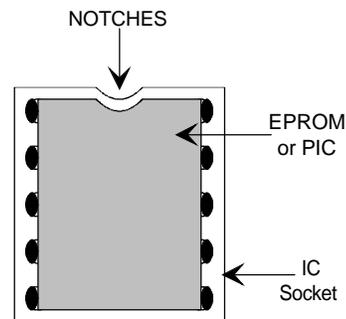

Figure 3 – EPROM/PIC Alignment
5. Examine the EPROM and the IC socket. One end of the EPROM and one end of the IC socket has a notch in the center (see Figure 3). With the EPROM and IC socket notches pointing in the same direction, align the EPROM's pins with the IC socket on the PCB.
5. Examine the PIC and the IC socket. One end of the PIC and one end of the IC socket has a notch in the center (see Figure 3). With the PIC and IC socket notches pointing in the same direction, align the PIC's pins with the IC socket on the PCB.